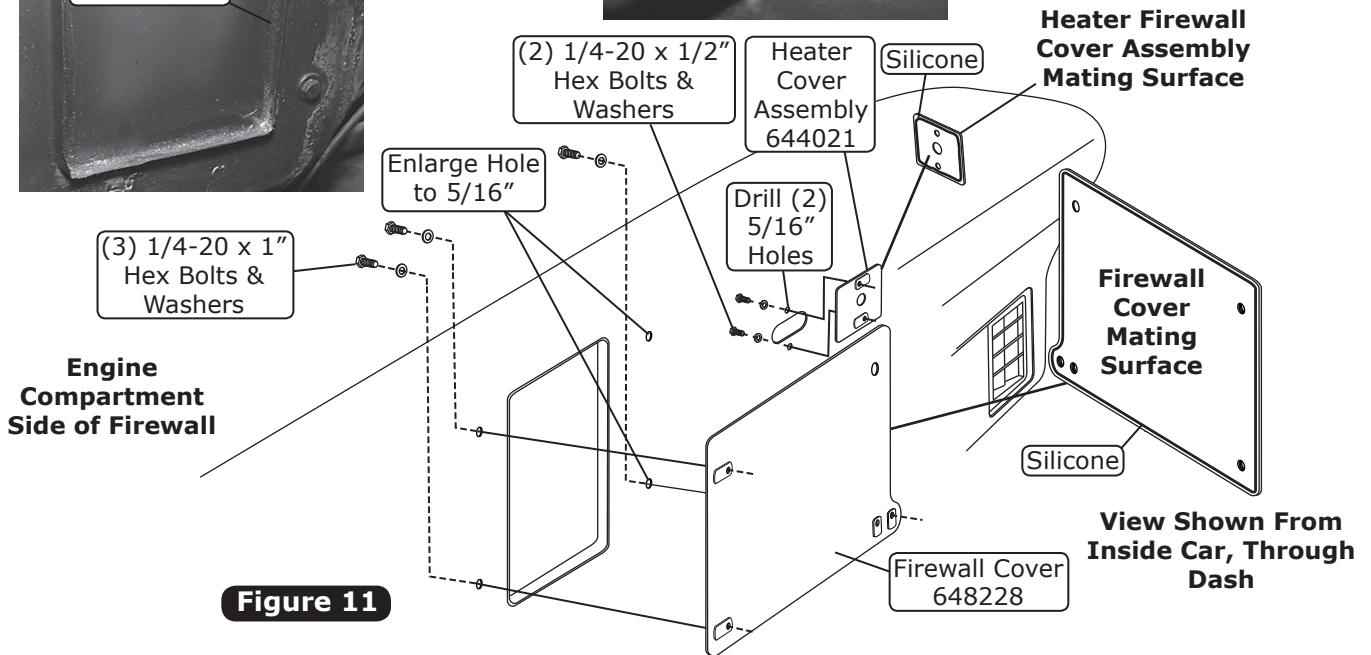

Figure 11
1. Using the heater cover assembly as a template, mark and drill (2) 5/16" holes in the firewall (See Figure 11, Page 11). **NOTE: Be sure to center the heater cover assembly hole with the OEM hole on the firewall before drilling.**
2. Enlarge (2) OEM holes in the firewall to 5/16" (See Figure 11, Page 11).
3. Apply a 1/4" bead of silicone around the mating surface of the firewall cover (See Figure 11, Page 11).
4. From the passenger compartment, install the firewall cover onto the firewall. From the engine compartment, secure the firewall cover to the firewall using (3) 1/4-20 x 1" bolts and washers (See Figure 11, Page 11).
5. Apply a 1/4" bead of silicone around the mating surface of the heater cover assembly (See Figure 11, Page 11).
6. From the passenger compartment, install the heater cover assembly onto the firewall (See Figure 11, Page 11). From the engine compartment, secure the heater cover assembly to the firewall using (2) 1/4-20 x 1 1/2" bolts and washers (See Figure 11, Page 11). **NOTE: For a finished appearance and a watertight seal, Vintage Air recommends applying a smooth bead of automotive seam sealer in the engine compartment to the joints between the heater and firewall covers and the firewall (See Photos 1 & 2, Page 11).**